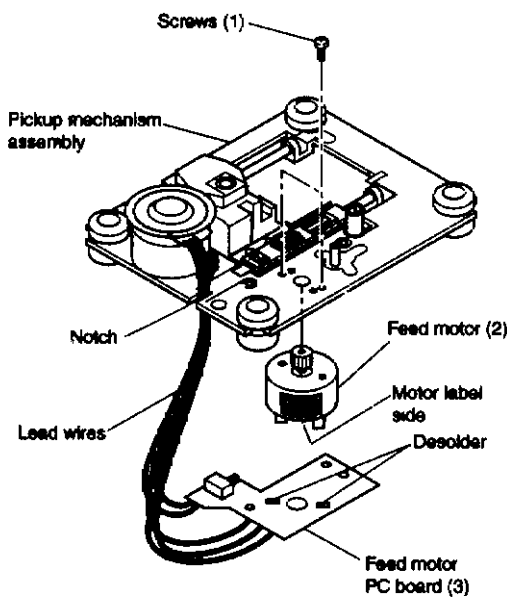

Fig. 2-1-23
3. Fit the positioning holes on the upper gear and lower gear of the gear B assembly (1) and mount on the pickup mechanism assembly with the phase matched. At this time, note that the phase of the gear B assembly (1) and the gear A (2) show's the status in the Fig.2-1-23.